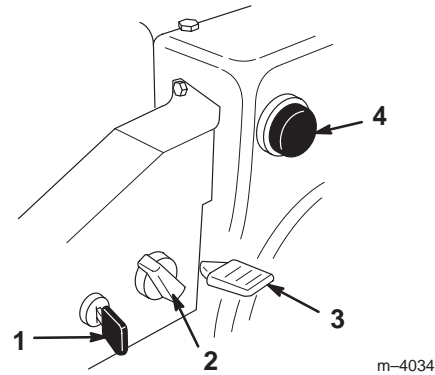

Figure 21
- **Ignition Switch** (Fig. 21)—Insert the key before starting the engine. To stop the engine, remove the key.
- **Choke** (Fig. 21)—Rotate the choke clockwise to the *On* position to start a cold engine. As engine warms up, gradually rotate the choke counterclockwise to the *Off* position.
- **Throttle** (Fig. 21)—Move the throttle upward to increase the engine speed; move it downward to decrease the engine speed. Move the throttle to the *Stop* position to stop the engine.
- **Primer** (Fig. 21)—Press the primer to pump a small amount of gasoline into the engine for improved cold-weather starting.
2. Remove the key from the ignition switch (Fig. 21).
3. Pull the choke knob off (Fig. 21).
5. Rotate the choke (Fig. 21) to the *On* position.
6. Insert the ignition key (Fig. 21).
7. Cover the hole in the center of the primer (Fig. 21) with your thumb and push in the primer three times, pausing a moment between pushes.
10. After the engine starts, immediately rotate the choke (Fig. 21) to the $3/4$ position. As the engine warms up, rotate the choke to the $1/2$ position. When the engine warms up sufficiently, rotate the choke to the *Off* position.